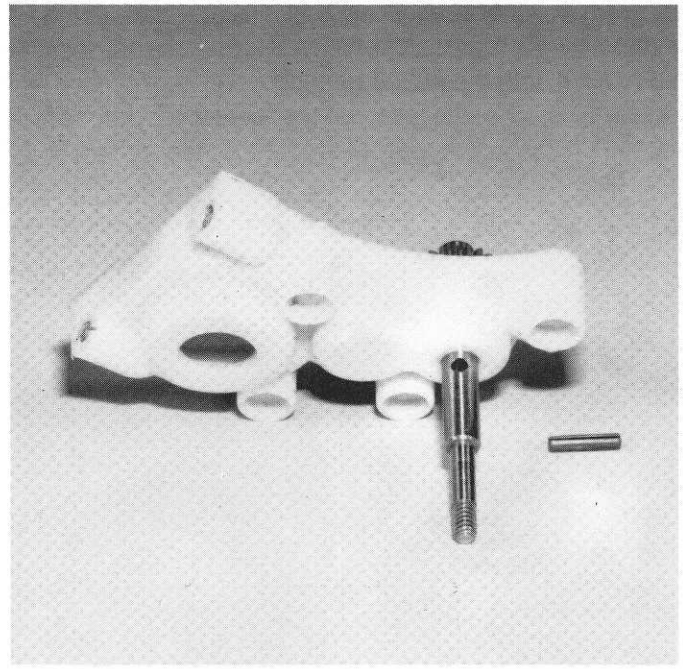

**Fig. 56**
□ **Fig. 56** As you're tightening, you'll notice the ear on the T-nut, shown by the arrow, moving closer and closer to the bottom of the slot in the hub. The spring should bottom out about the same time as the ear is at the bottom of the slot. When you feel the spring bottom out, that's when you back off 1/8 to 1/4 turn and your diff is correctly adjusted. The diff should operate very smoothly when turning the hubs in opposite directions. Recheck the adjustment before driving the car. There is never a need to adjust the diff in any other manner.